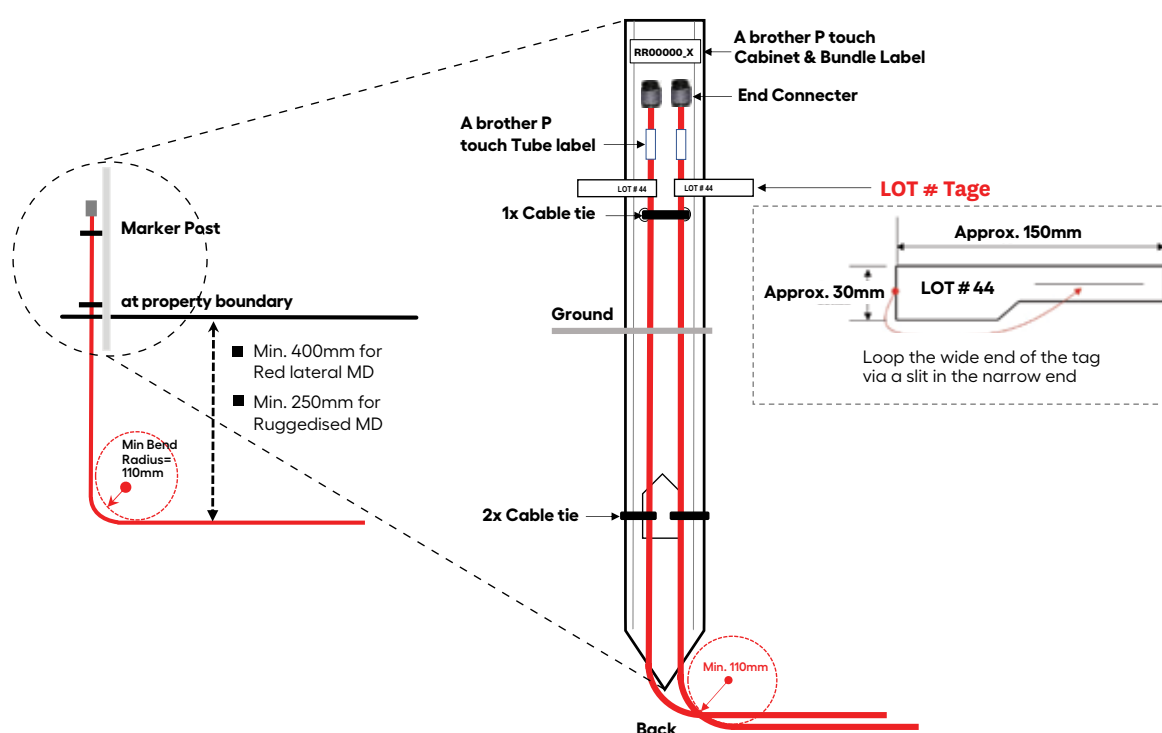

Figure 2 – Lead-In Microduct Location with Marker post
1. Place the microduct with a marker post by the boundary and cap the microduct with an End Stop Connector (Fig 2).
2. To provide better traceability and mitigate substandard installations, the techs involved in Greenfield or Subdivision are to attach the **LOT # Tag** to the microduct located behind the marker post (Fig 2).